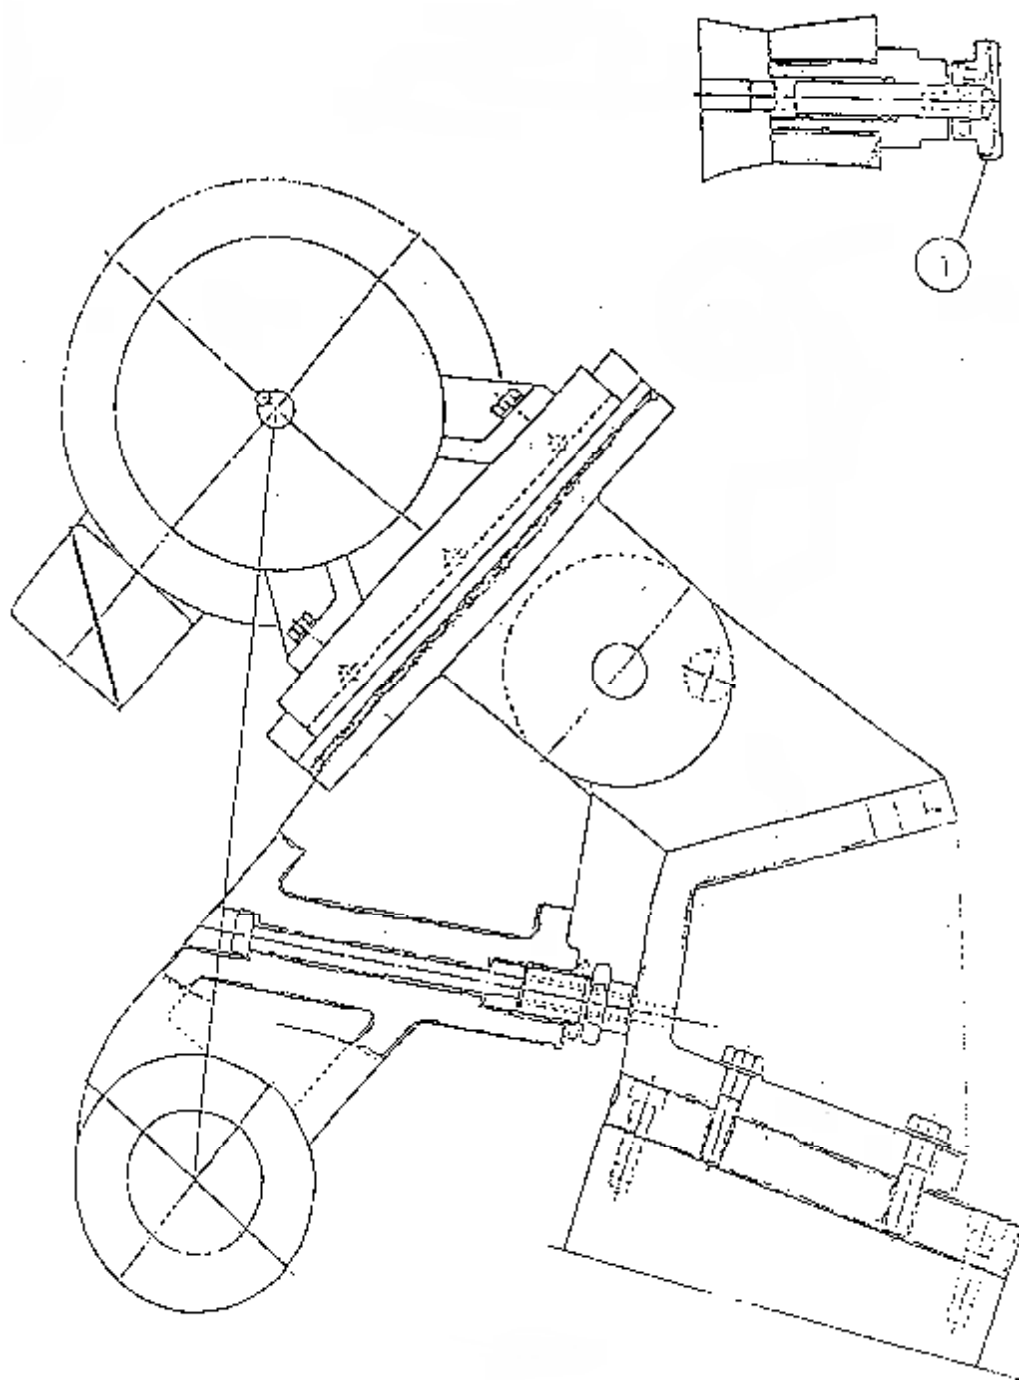

Fig.11
1. Pull the fixed pin outward to turn for 90 degree & release. (Fig. 11-• )